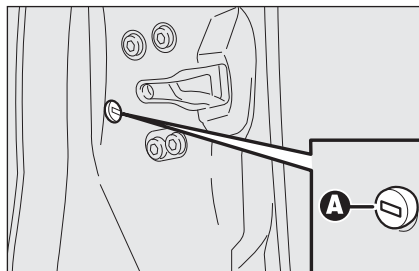

fig. 92
- fit the electronic key metal insert into **A-fig. 92**;
- remove the key from **A-fig. 92** and then fit the plug on the door.